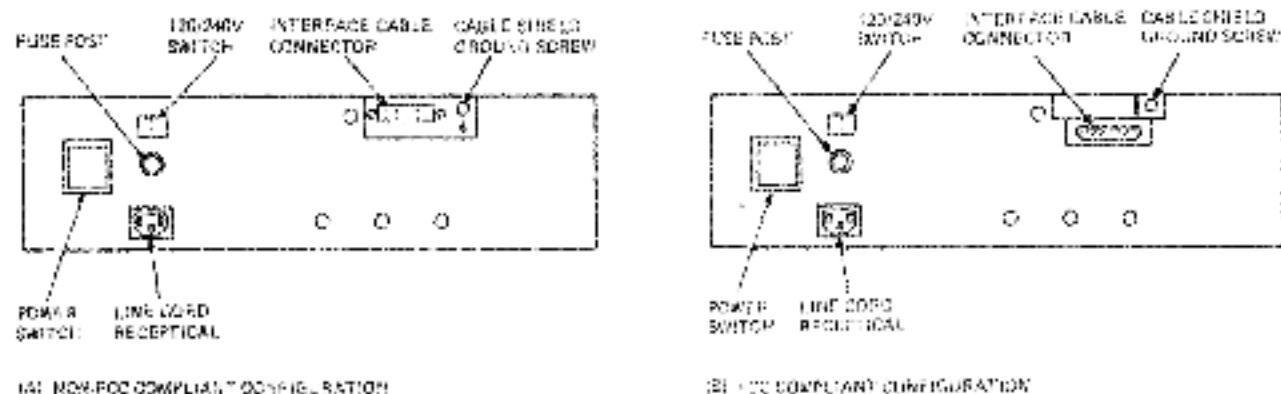
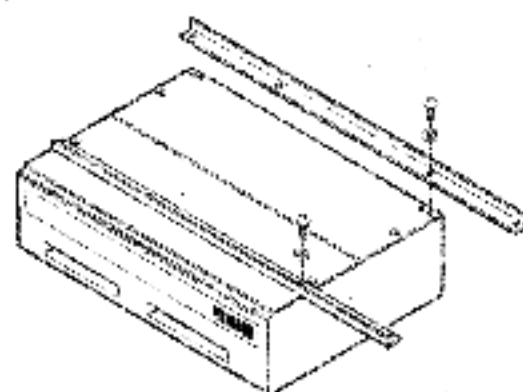

Figure 4-1 TU58-DA Rear Panel
Figure 4-2 Installing Support Brackets
Detachable line cords for 115 V and 230 V, and two fuses are supplied with the TU58-DA. The line cord receptacle meets European IEC standards. A switch on the back of the tape drive rear panel selects 115 V or 230 V (Figure 4-1).
- Disconnect the power cord and interface cable from the rear panel of the TU58 (Figure 4-1).
- With the power cord and interface cable removed (Figure 4-1), carefully place the TU58-DA upside-down on a flat working surface so the front of the device is facing you.
- Remove the rubber feet if attached by removing the screws that hold them in place (Figure 4-1). Refer to Figure 4-2 and align the two support brackets on the bottom of the TU58-DA so they are flush with the left side. Fasten down the right side of each support bracket with two screws and two lock washers.
1. Disconnect the power cord and interface cable from the rear of the TU58 (Figure 4-1).